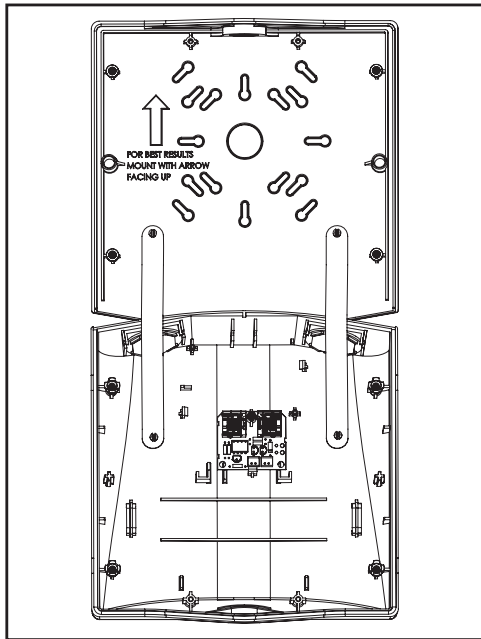

Figure 2
7. Adjust the heads as needed. The SRPA Remote lenses utilize a highly directional beam, and the lenses can be rotated to adjust the beams to the front or sides of the fixture (see Fig. 2 next page).